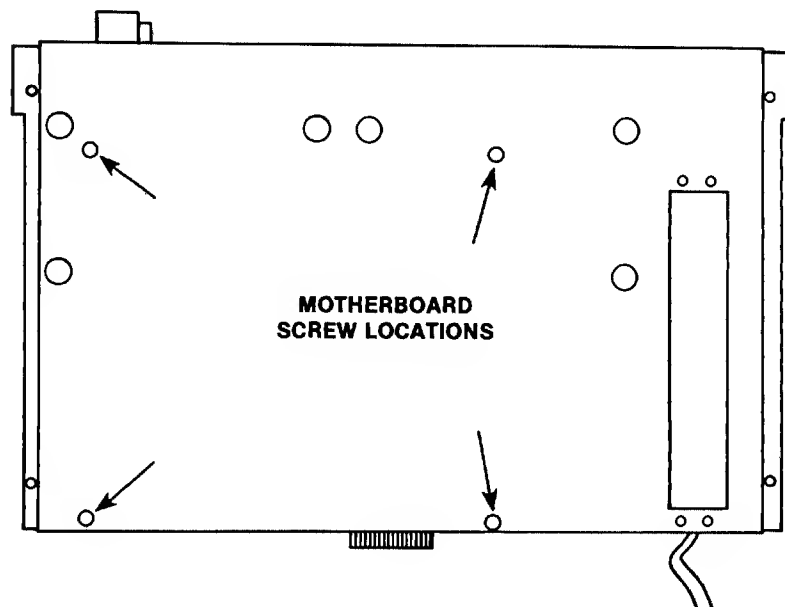
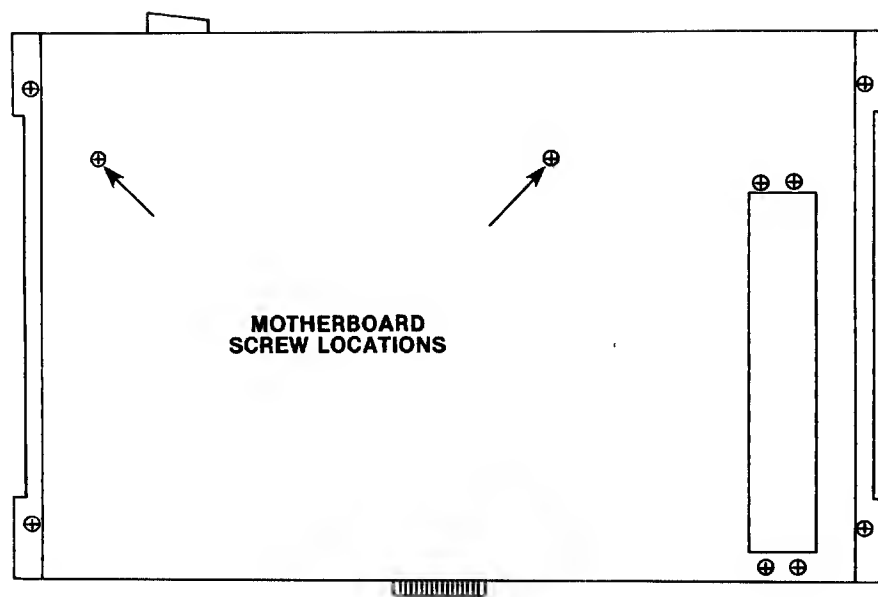

Figure 2-5: Location of Screws - Revision A Chassis
Figure 2-7: Location of Screws - Revision C Chassis
4. Rest the unit on its side. If disassembling a Revision A or Revision B chassis, remove the four screws on the bottom that hold the motherboard to the chassis (see Figure 2-5 or 2-6). If working with a Revision C chassis, remove the two screws on the bottom and the two screws on the rear panel which secure the motherboard (see Figure 2-3 and Figure 2-7). Support the board with your hand (do NOT push hard against it) when you remove the last screw, to keep it from falling.